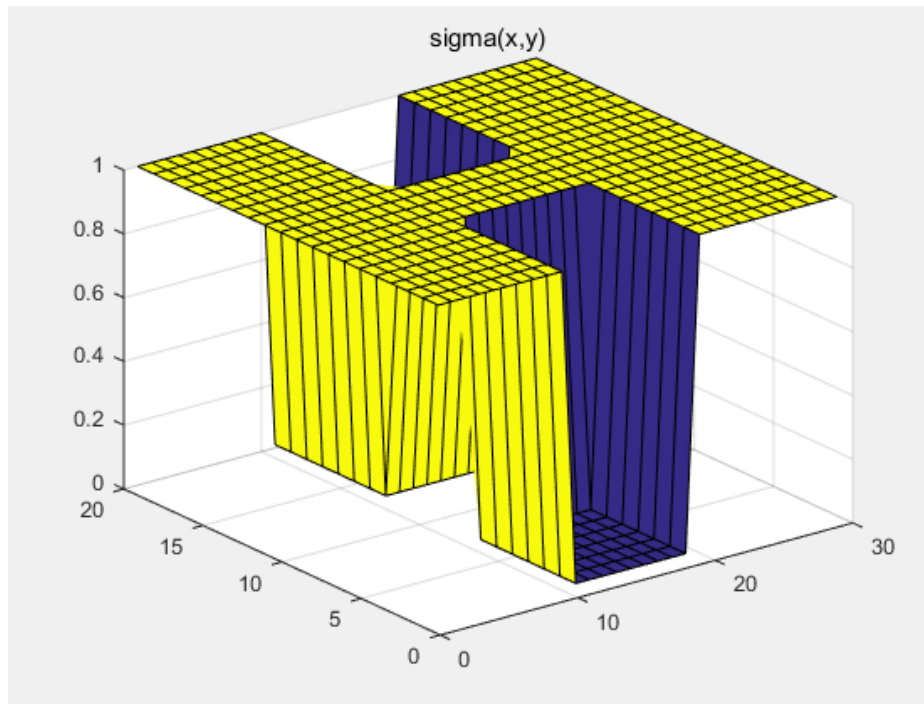

Figure 4: $\sigma(x,y)$
- a) Surface plot for sigma(x,y) is shown in Figure 4.